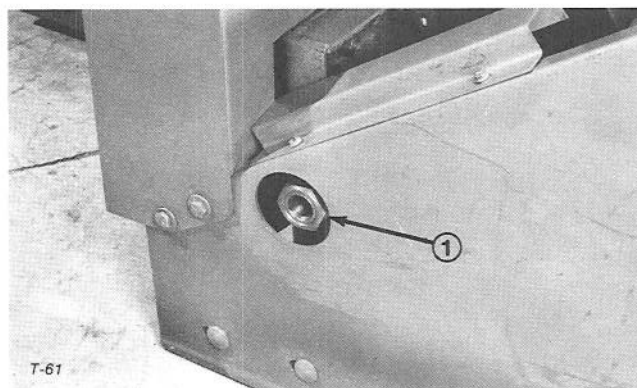

Figure 24
3. At start of each season, disassemble slip clutch and generously lubricate I.D. of sprocket and jaws of slip clutch with Moly EP grease. Reassemble slip clutch and tighten until outside jam nut is flush with sleeve (Fig. 24). Operate
1. Remove the outer jam nut (Fig. 24).